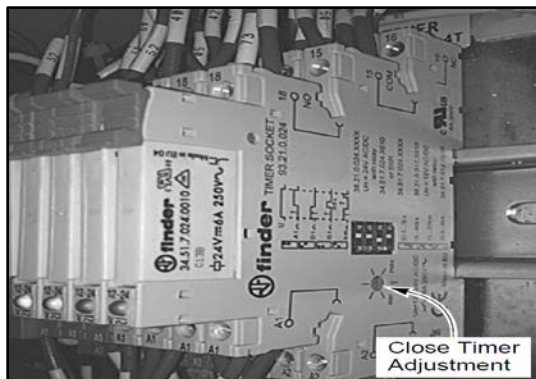

Figure 42
3. To adjust the T4 auto close timer turn the dial on the side clockwise to increase time and counterclockwise to decrease the auto close timer. (See Figure 42)